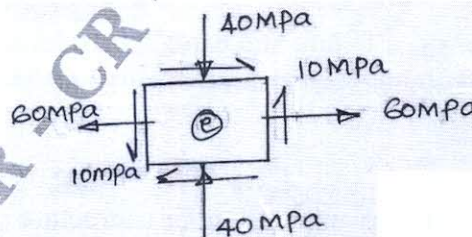

Fig. Q3 (b)
- b. The state of stress at a point in a strained material is shown in Fig. Q3 (b).